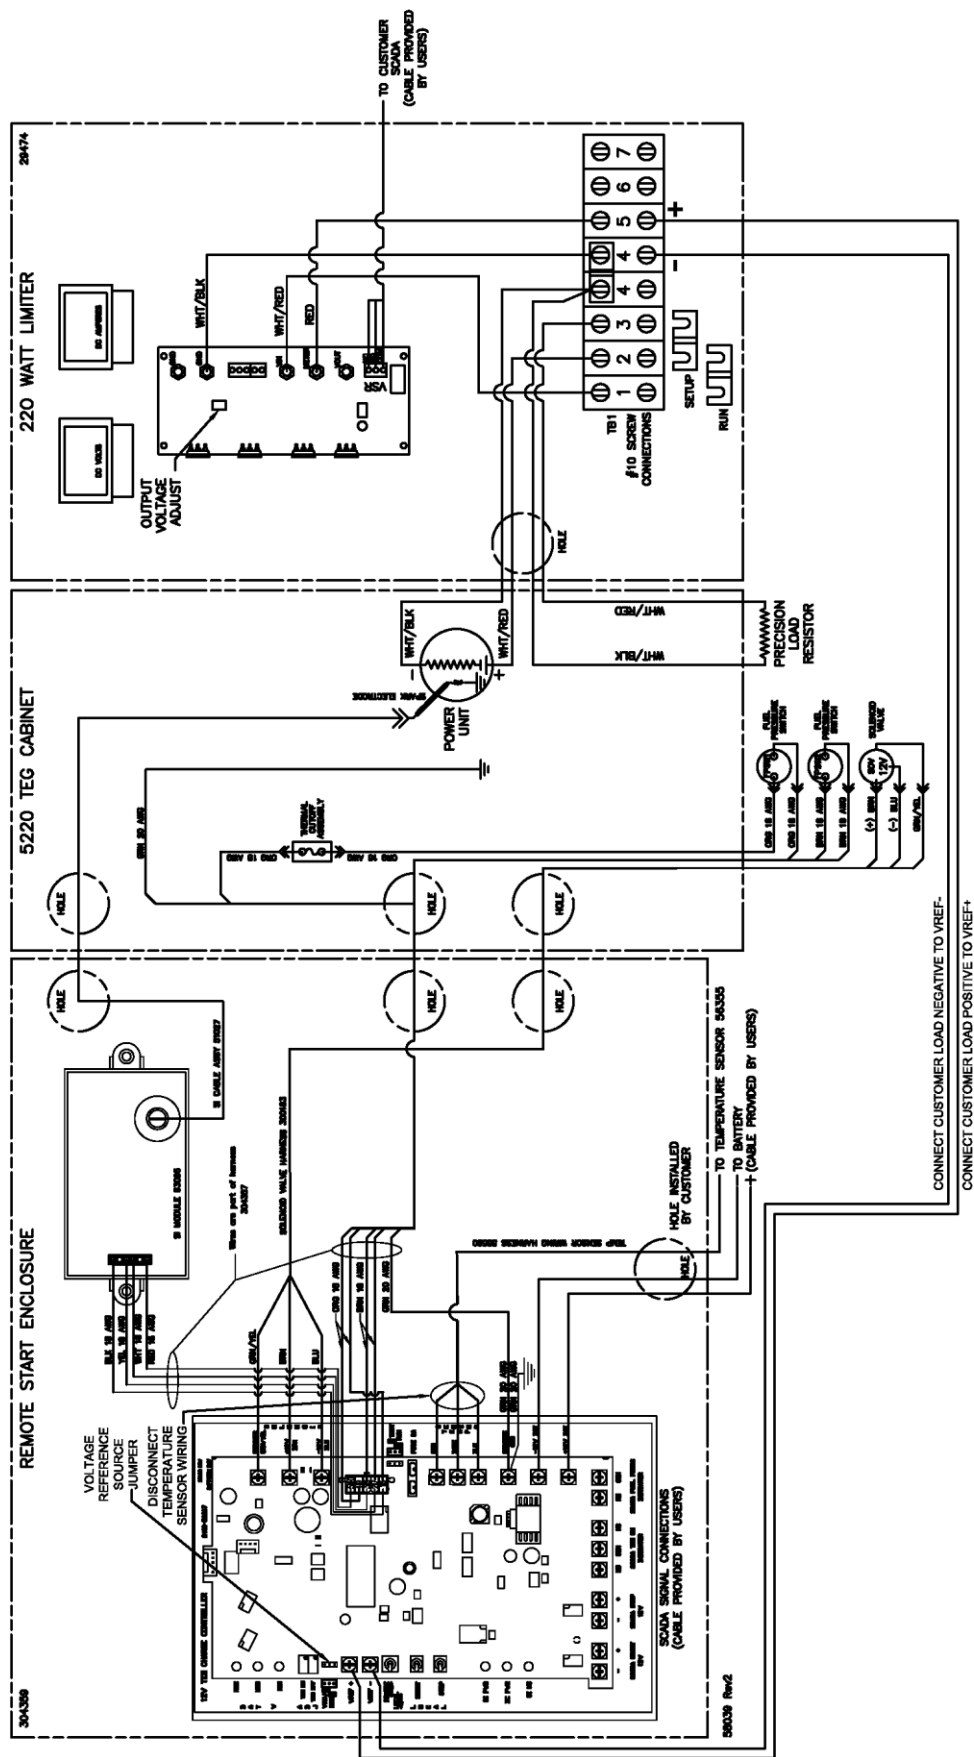
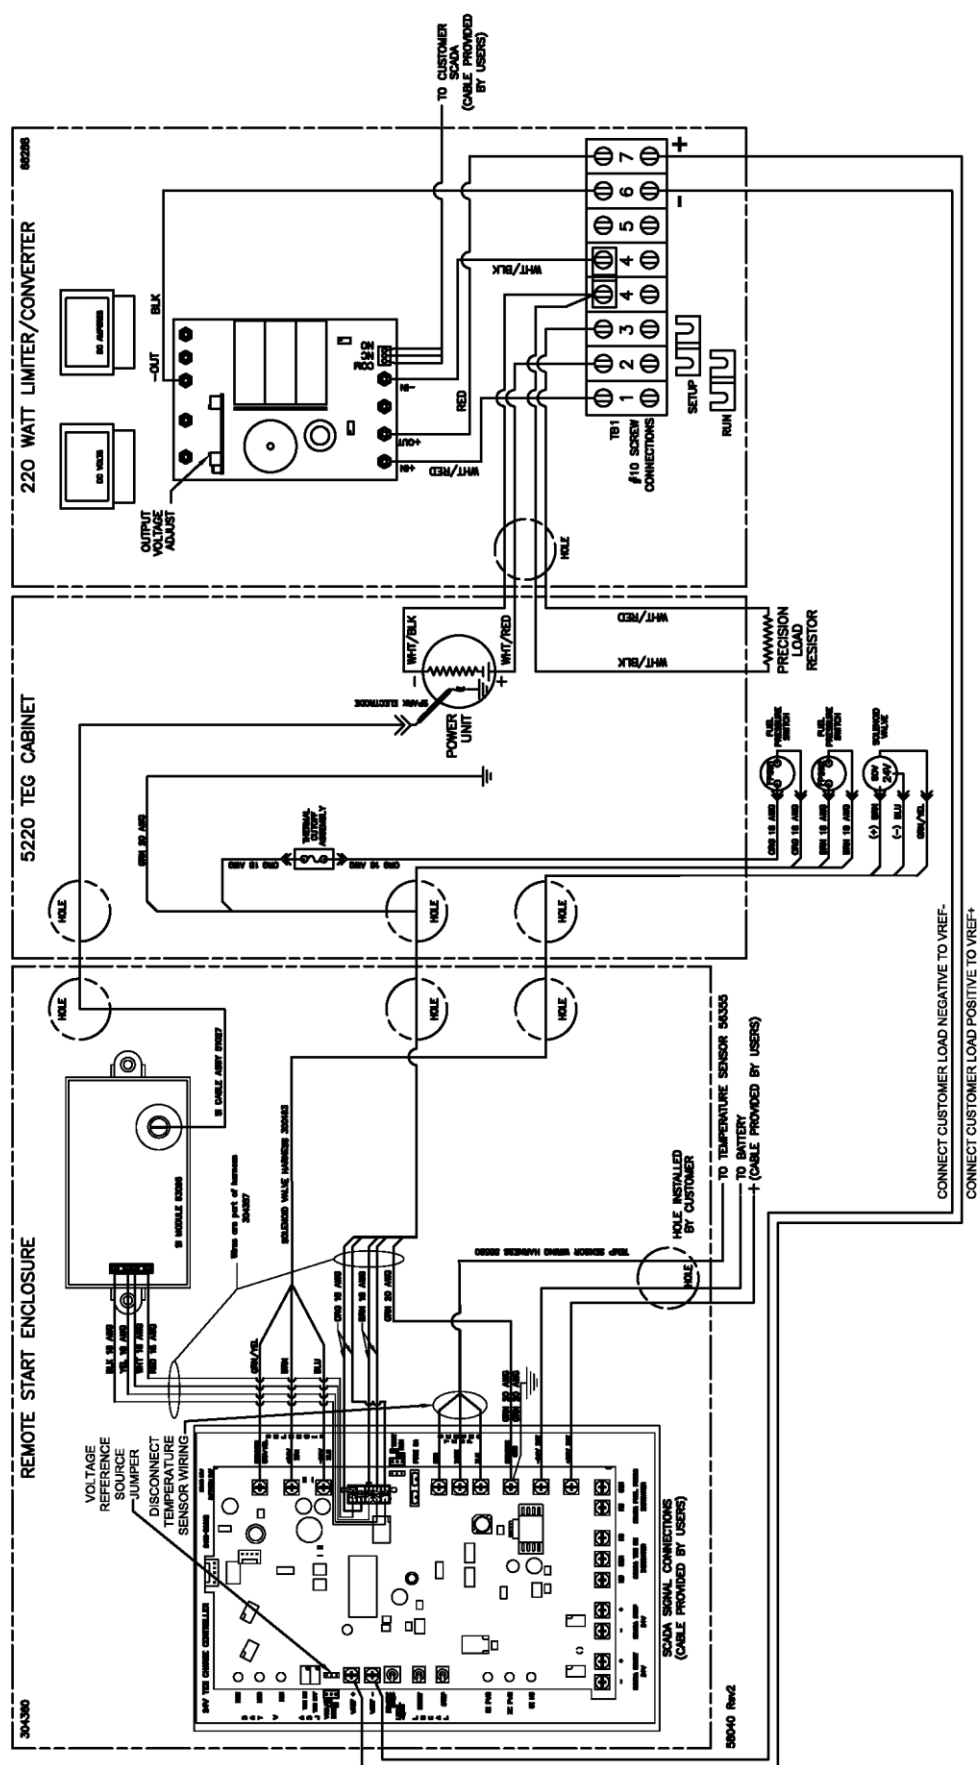

Figure 44 - 12V Remote Start 5220 System In-Field Adjustment Using the TEG
Figure 45 - 24V Remote Start 5220 System In-Field Adjustment Using the TEG
4. Refer to Figure 44 or Figure 45, carefully connect VREF- terminal starting from the TCC module to the output negative terminal on the terminal block TB1 located inside the limiter or L/C electronics box, then carefully connect VREF+ terminal starting from the TCC module to the output positive terminal on TB1, with jumper wires.
7. Refer to Figure 44 or Figure 45, use the Output Voltage Adjust Pot on the L/C board or limiter board to set the TEG's output voltage to the desired TEG ON value.